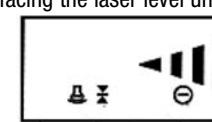

Figure 11
- If the LCD shows a "left" arrow and emits rapid short sounds, this indicates that the laser level signal is located to the right of the detector (Fig. 11).